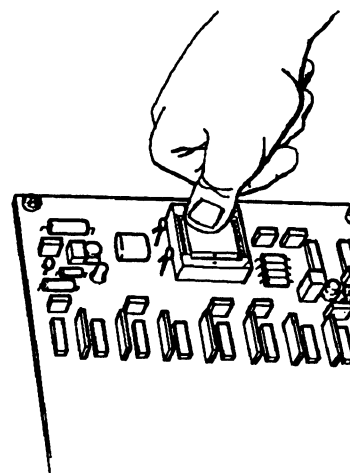

Figure 5 Press Firmware 081004 in Socket (typical)
- b. Press IC into place. See Figure 5. When properly installed, IC will be flush with top of socket.